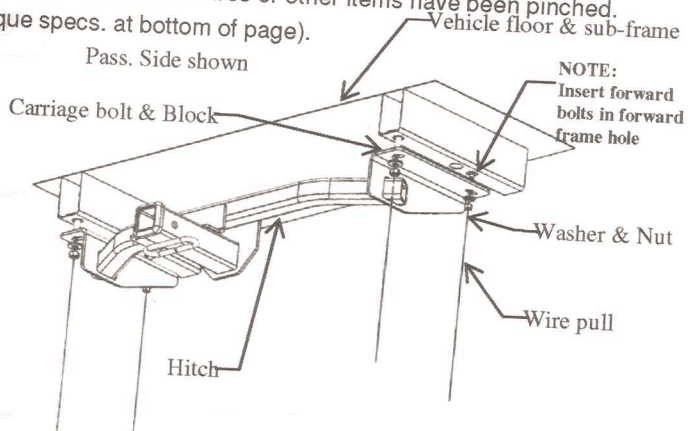

Fig. 4
4. Insert the (4) bolt assemblies into each of the (4) vehicle frame holes. Use the wire pull to pull the bolt and block snug inside the vehicle frame rail (Fig. 4). It is best to insert the lead end of the 1/2" bolt wire pull into the rear frame hole until it appears at the front bolt hole. Pull the wire through the front hole until the 1/2" bolt and rectangular washer seats as shown in Fig. 4. **NOTE: Insert forward bolts in forward frame hole**
6. Raise hitch into position, Use the wire pulls to guide the bolts to the hitch mounting holes and slots (Fig.4). Install the four (4) conical washers (Item 3) and (4) 1/2" nuts finger tight. In order to thread the nut it will be necessary to remove the wire pull. **DO THIS ONE AT A TIME!**